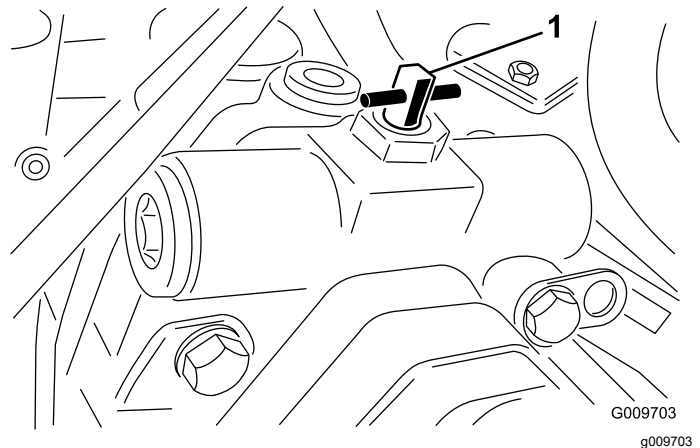

Figure 102
6. Close the tow bypass valve by rotating it back 90° (1/4 turn) before starting the engine. (Figure 102).